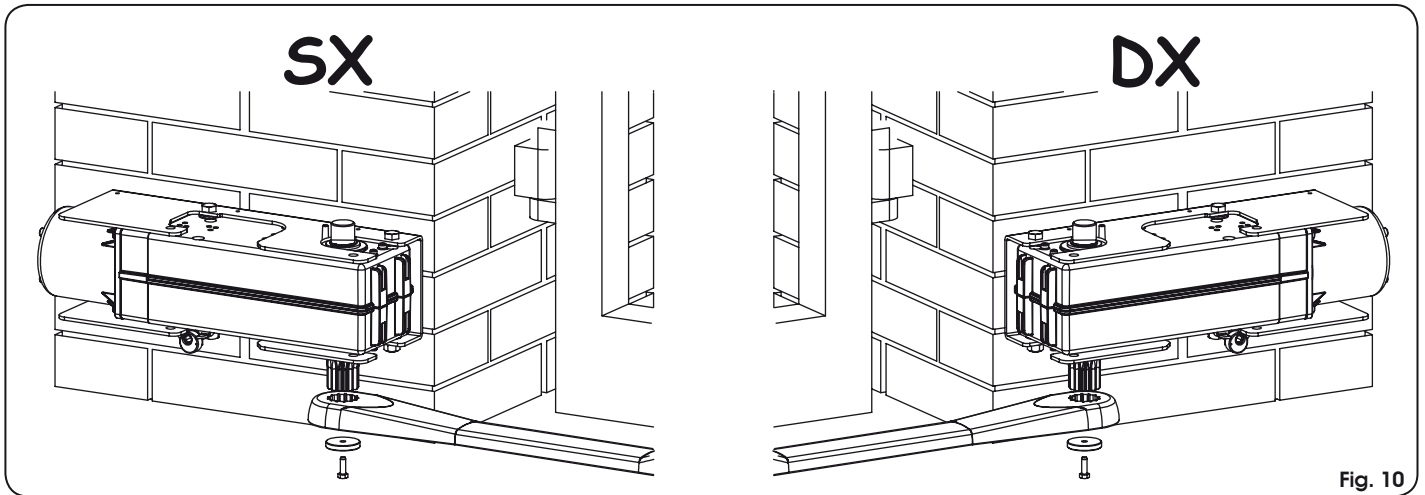

Fig. 10
Fit the straight lever of the articulated arm on the gearmotor shaft and tighten it with the supplied screw and washer (Fig. 10).
- Fit the guards on the operator (Fig. 10).